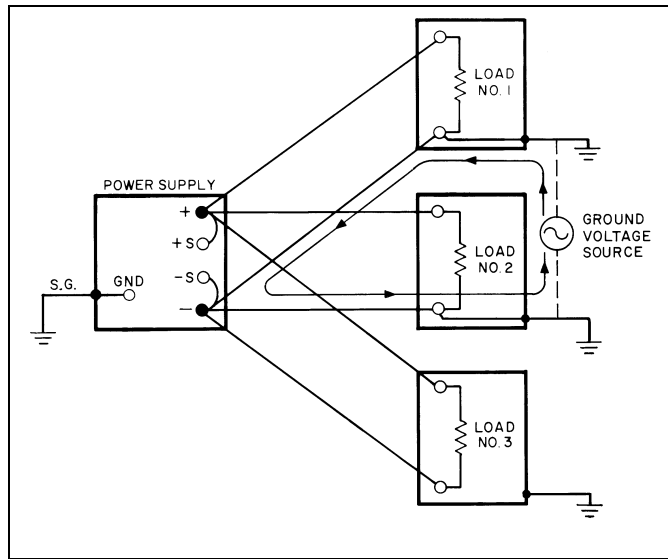

Figure 44. Ground Connections for Multiple Loads, Two or More Grounded
d. Multiple Loads, Two or More of Which are Individually Grounded--This is an undesirable situation and must be eliminated if at all possible. Ground loop currents circulating through the dc and load wiring cannot be avoided as long as separate loads connected to the same power supply (or dc system) have separate ground returns (Figure 44).